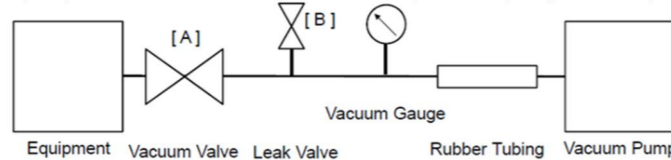

Fig.4 Connection with Vacuum System for PVD-180, -360
- (3) Installation of a vacuum valve, a leak valve and a vacuum gauge between the equipment and the vacuum pump is required for PVD-180 and PVD-360 as shown in Fig.4. When the pump stops, shut the vacuum valve [A] to keep the equipment in vacuum, then open the leak-valve [B] and let air into the pump to prevent from counter-flow of the rotary vacuum pump oil in the pump.
Re-check prescribed installations once more and operate your pump as shown Fig.4~7, PVD-180(B)(-H) and PVD-360(B)(-H), in accordance with the following procedures to obtain the specific performance of the pump.